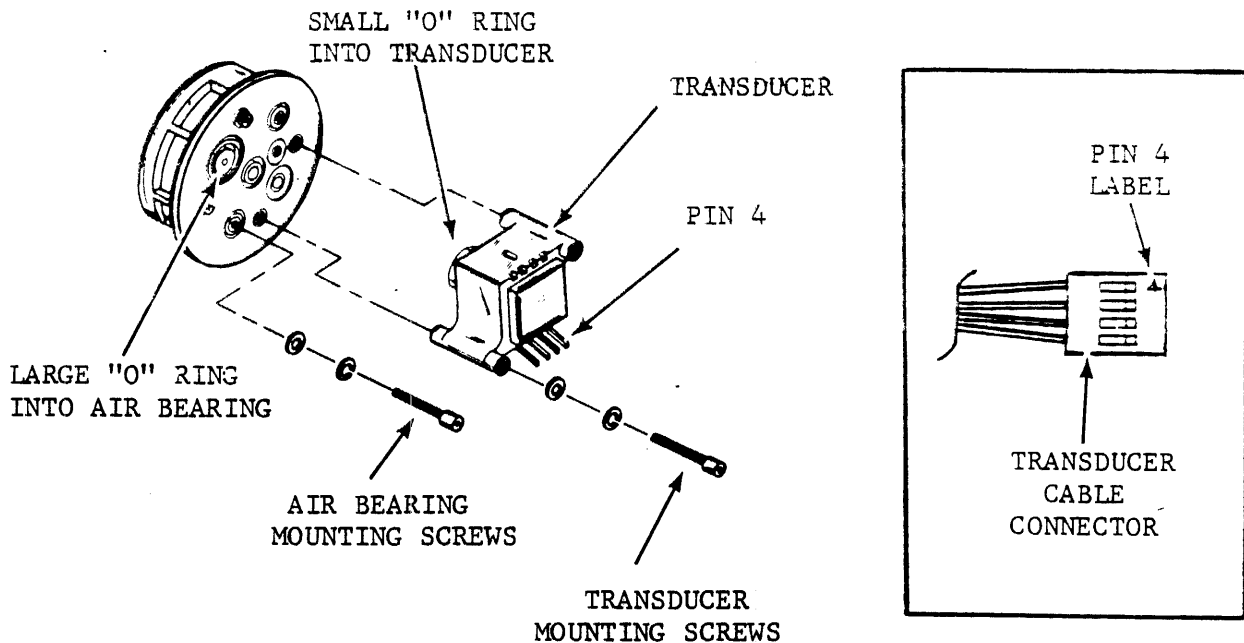

Figure 6-15. AIR BEARING TRANSDUCERS
6. Reattach P1 connector to the transducer pins. Refer to Figure 6-15 for pin orientation.